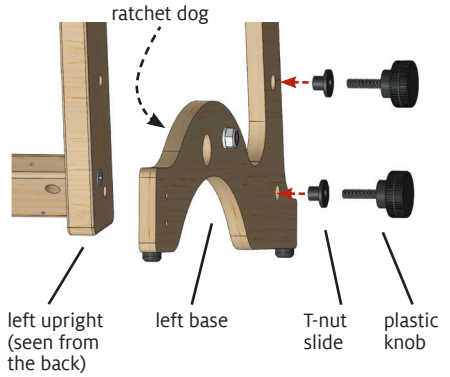

FIGURE 2: ATTACH LEFT BASE
2. Attach the left base: Orient the base with its rubber feet at the bottom of the loom, the curve and large hole at the back, and the ratchet dog facing the inner side of the loom (Figure 2). Using a knob and T-nut slide from the previous step (the knob shaft goes through the wider side of the T-nut slide), go through the upper hole in the base from its outer side, then into the left upright. Tighten the knob loosely. Repeat with the remaining knob and T-nut slide, inserting the knob through the bottom hole in the base and left upright. Do not fully tighten the knobs yet.